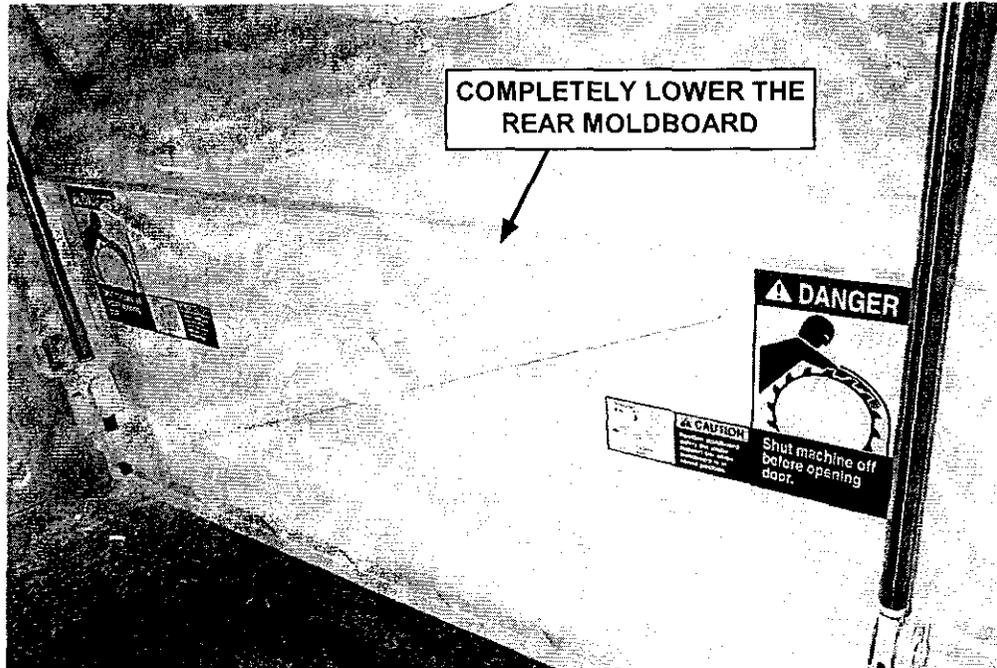
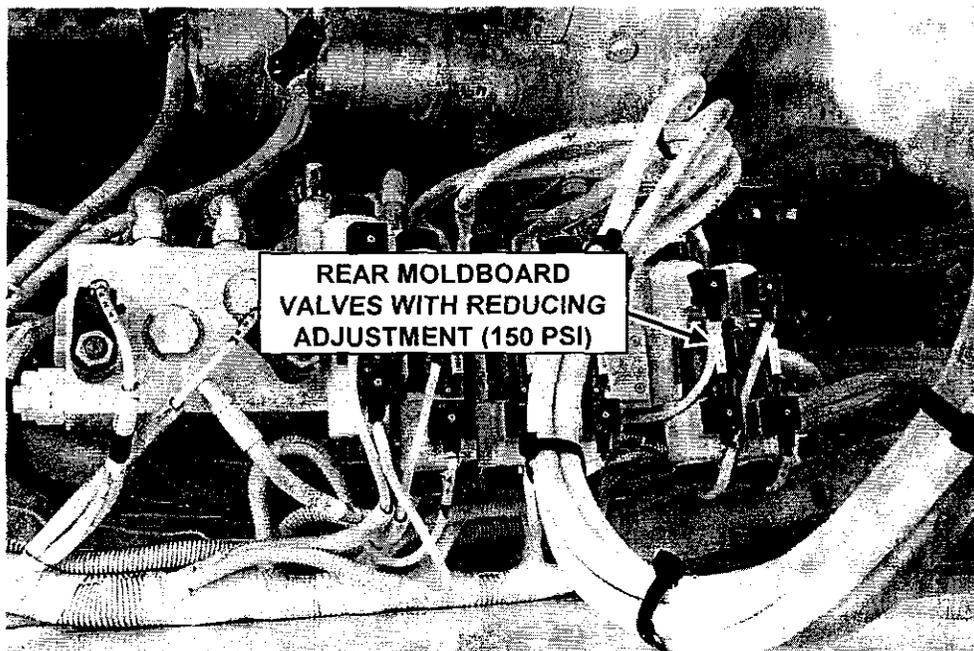

FIGURE 27
FIGURE 28
I. Be sure that the rear moldboard is lowered (figure 27). Rear moldboard down pressure can be adjusted at the pressure reducing valves located inside the engine compartment just behind the hydraulic tank (figure 28). The normal operating pressure of the rear moldboard is 150 psi.